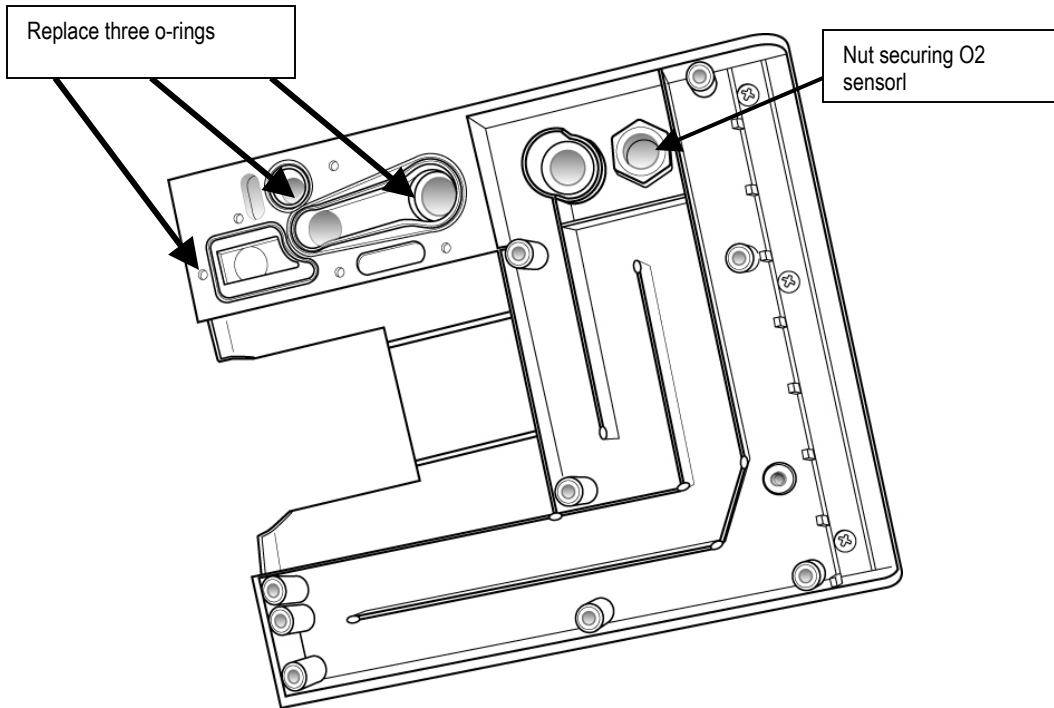

Figure 3.14 Manifold base assembly (early model Vela units only), bottom panel & O2 hose removed
3. Remove the 1" mounting nut from the manifold base (see figure 3.14) and pull the sensor from the manifold.